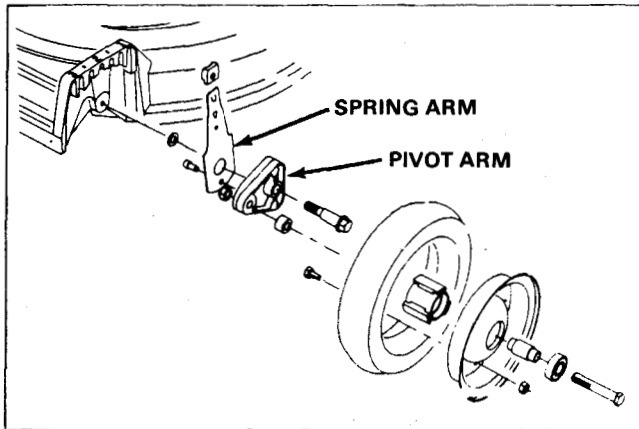

Figure 19
The front wheels are not affixed directly to the cutter housing. Rather, they are affixed through *pivot arms* which allow changes in height of cut. As the pivot arm is rotated, the distance from the ground to the blade will increase or decrease accordingly. Once in the desired position, the *spring arm* prevents the pivot arm from further rotation by means of a pin or rivet which falls into a slot on the front quadrant. See Figure 19.
2. Assemble the pivot arm and spring arm so that the concave portion of the knob faces the deck. See Figure 19 above for pivot arm orientation. Secure the spring arm with the socket head machine screw.